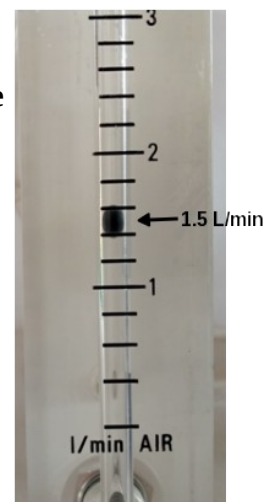

Figure T1-7. Rotameter operating at 1.5 L/min
(3) **Read the flow rate off the rotameter (DO NOT use the rotameter on the pump itself).** Be sure you are looking at the rotameter perpendicular to the face and not at an angle. Read the flow rate looking at the center of the ball (see Figure T1-7). The divisions on the rotameter are 0.2 LPM each. Read the flow rate to the closest 0.1 LPM (See Note T1-8) and record this number on the *Formaldehyde in Air Sample Collection Log* along with the ID of the *Field Calibration Check Only* tube being used. If you are the assigned QT sample custodian, then record the flow rate check results on the *Air Sample Collection Setup Log*.